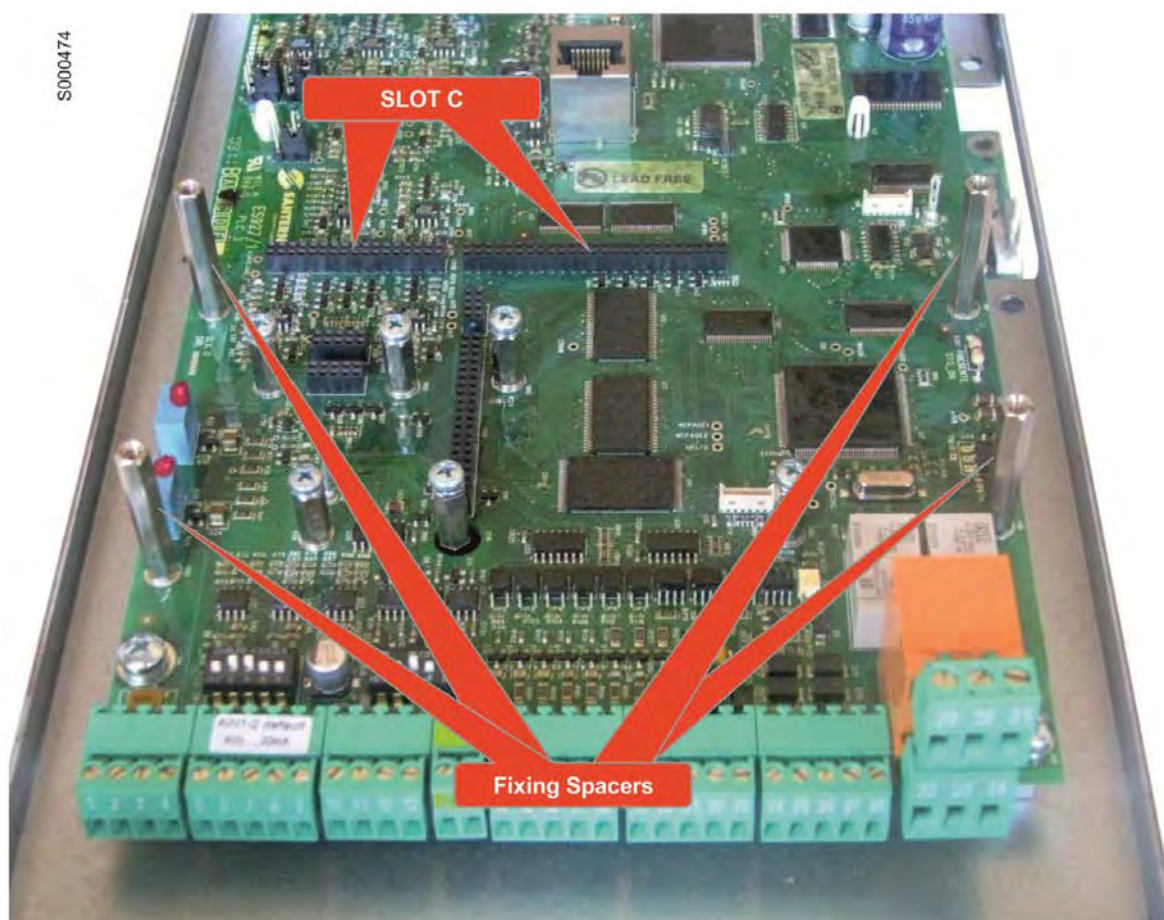

Figure 208: Location of slot C inside the terminal board cover
3. Loosen the two front screws located in the lower part of the inverter cover to remove the covering of the terminal board. You can then reach slot C in the PENTA control board where ES988 is to be installed, as shown in Figure 208.